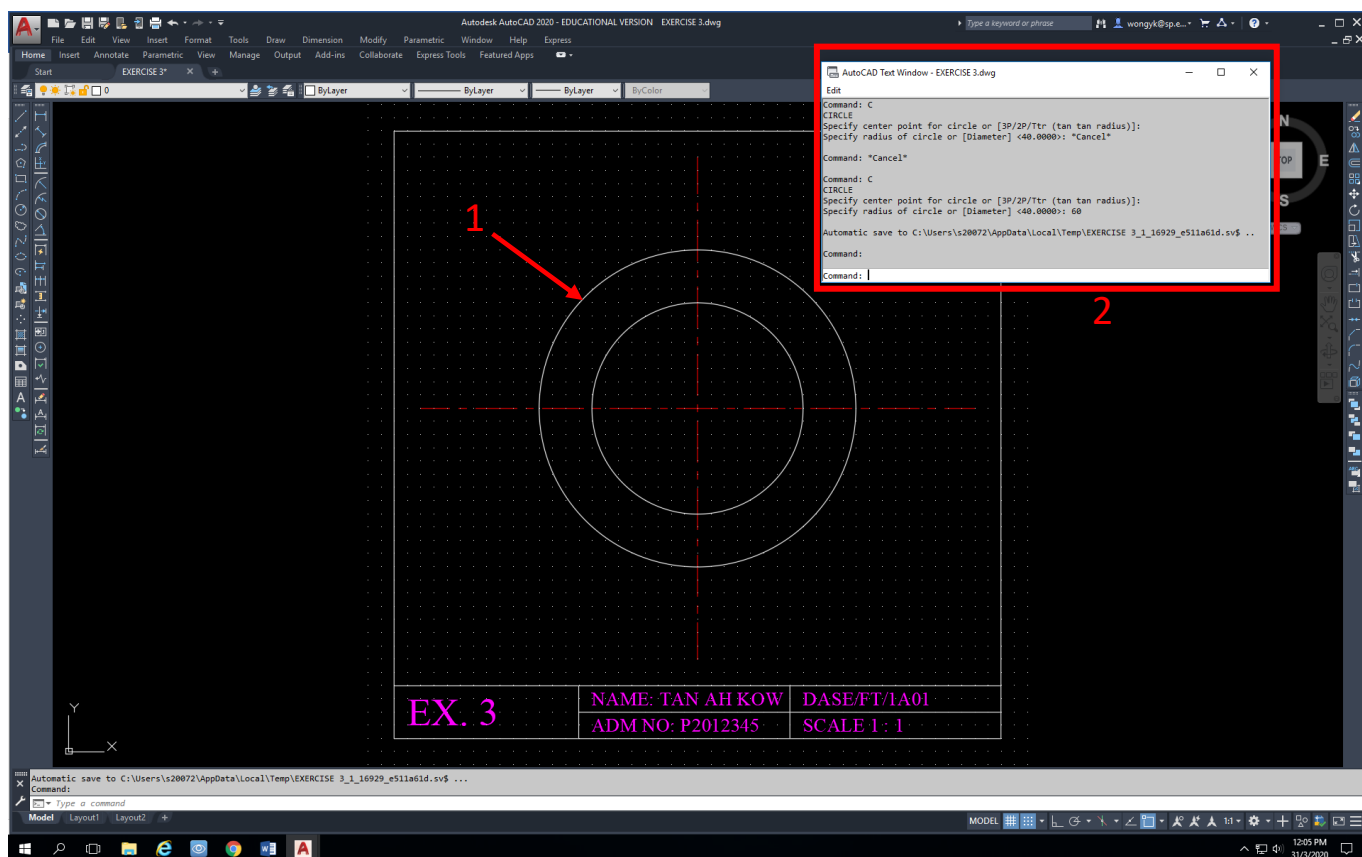

Fig 21
- vii. Fig 21 shows the completed outer ring gasket and the completed steps **(2)**